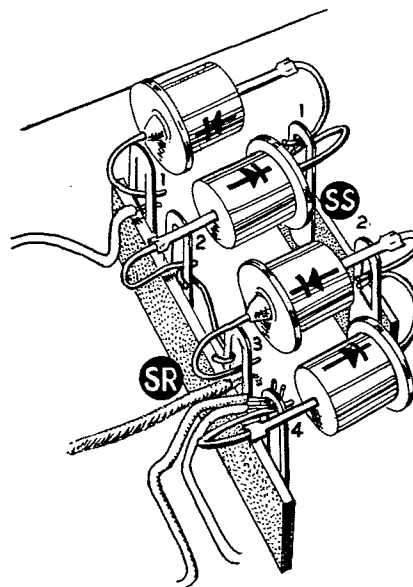

Figure 15
() Carefully study Figure 15 before installing the four silicon rectifiers in terminal strips SR and SS.
() Select one of the four silicon rectifiers (refer to Figure 15) and connect the positive (+) lead to terminal strip SS2 (NS); the negative (-) lead should be connected to terminal strip SR4 (S-3). Apply only enough heat to make proper connection.